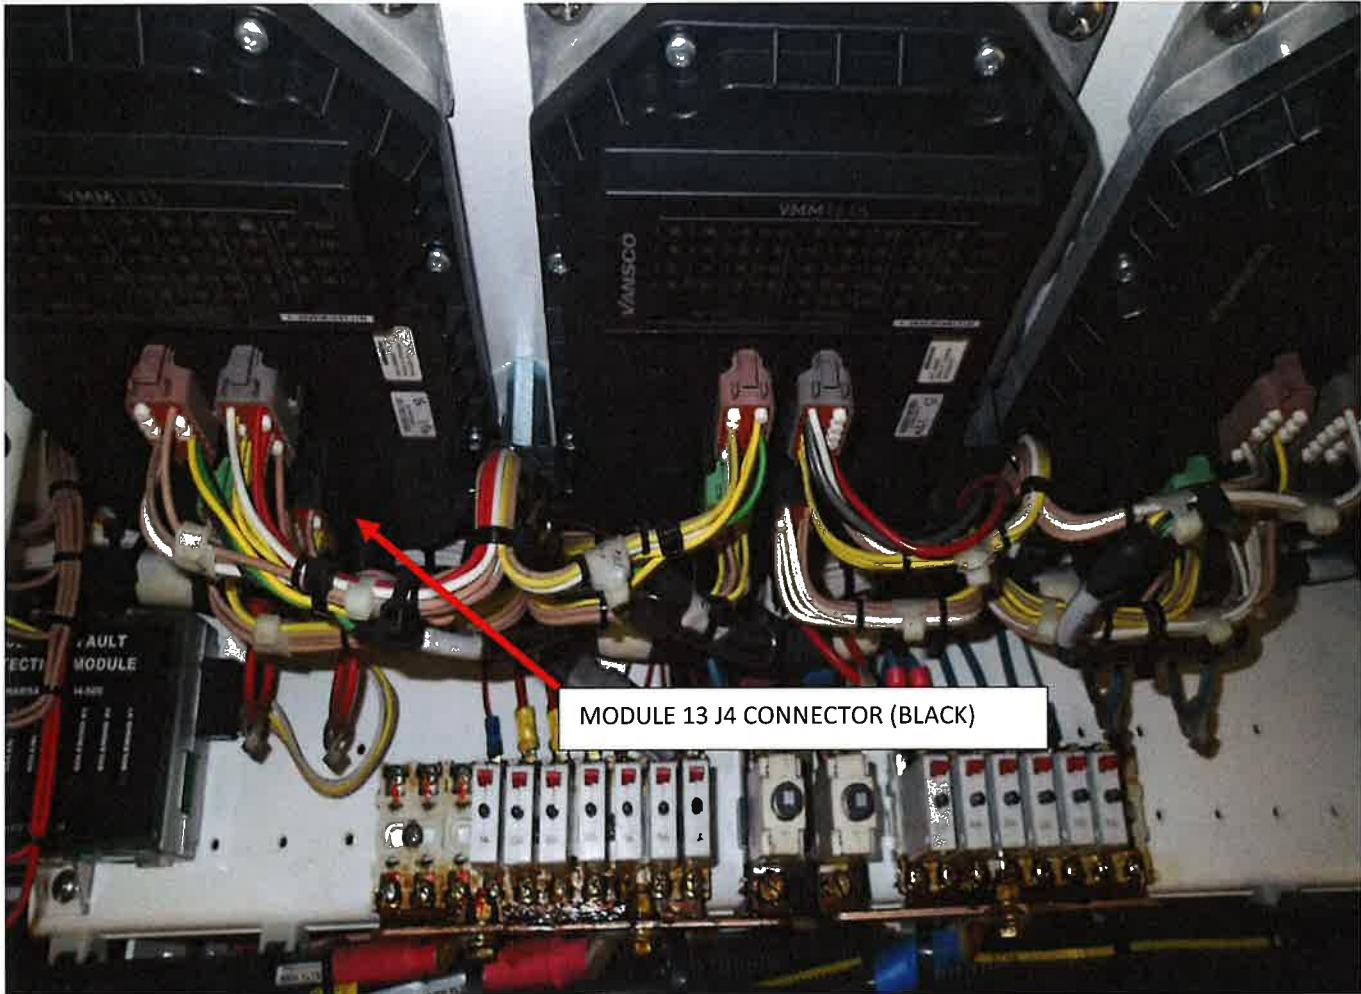

Figure 14: Vansco Module 13 J4 Connector Location at Rear Rack Electrical Panel
7. Route the other end of the **Unmarked TAN** wire to Vansco Node 13 Connector J4 (black). See **Figure 14**